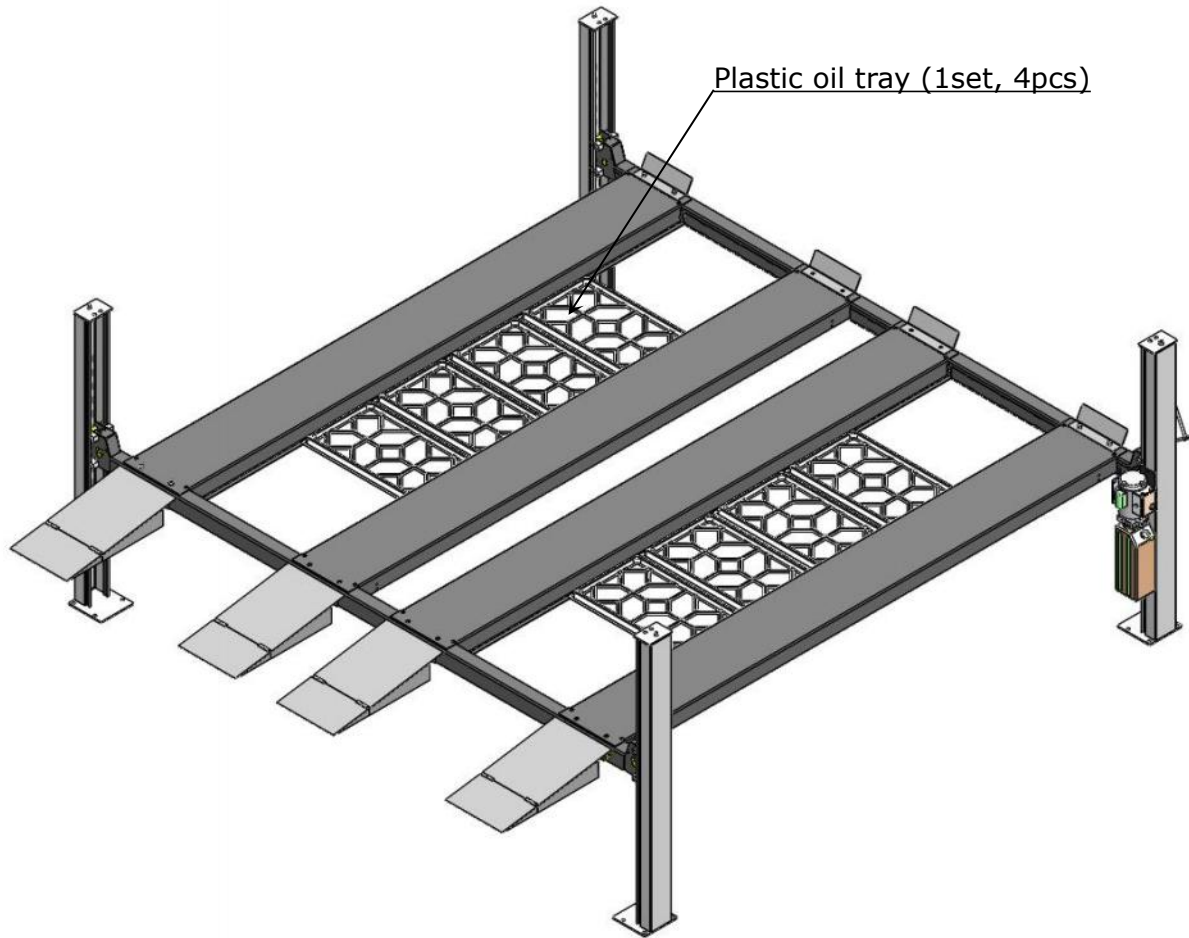

Fig. 41
O.Install optional plastic oil tray (Kits No.40806) (See Fig 41)